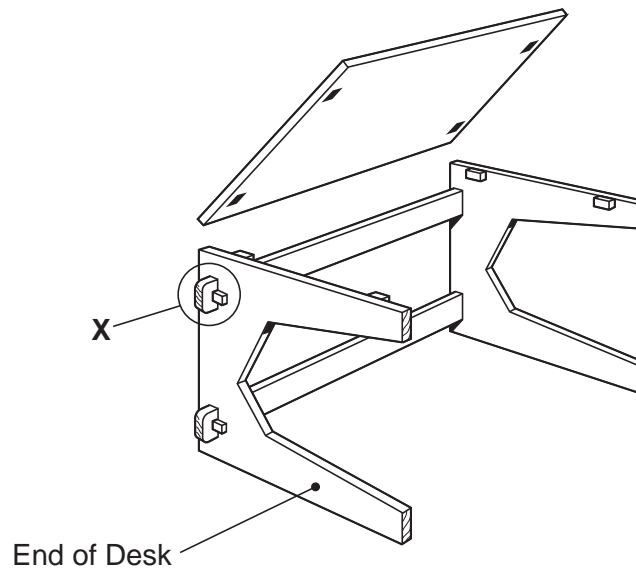

Fig. 6
- 6 Fig. 6 shows a design for a desk, most of which is made from MDF (Medium Density